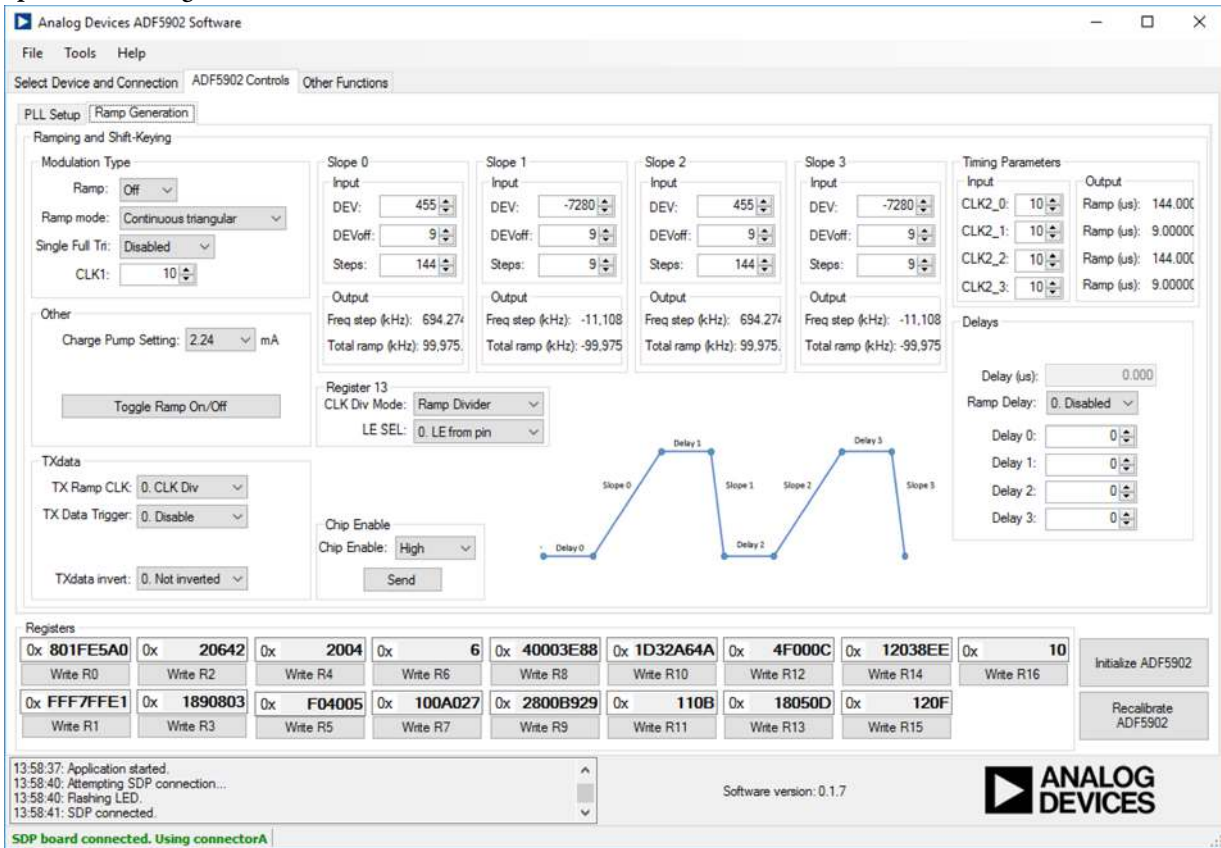

Figure 5. PLL Software Window Display, ADF5902 Ramps Generation
1. Click the **Ramp Generation** tab in the PLL software window (see Figure 5).